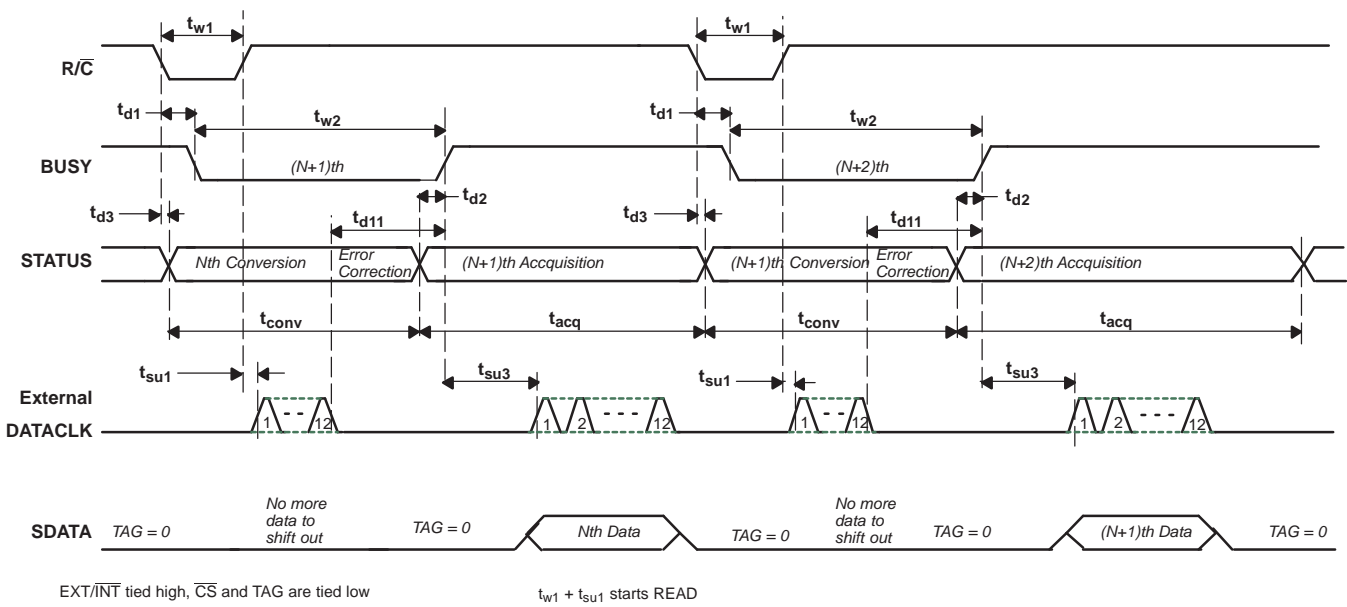

Figure 37. Basic Conversion Timing - External DATACLK
(1) See Figure 37, Figure 38, and Figure 39 for constraints on data valid from conversion $N-1$.